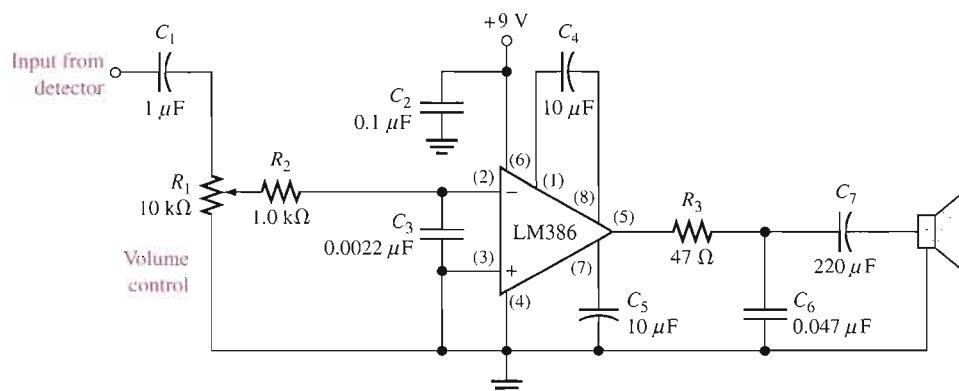

FIGURE 17–39
A typical application of the LM386 as a power amplifier in a radio receiver is shown in Figure 17–39. Here the detected AM signal is fed to the inverting input through the volume control potentiometer, R_1 , and resistor R_2 . C_1 is the input coupling capacitor and C_2 is the power supply decoupling capacitor. R_2 and C_3 filter out any residual RF or IF signal that may be on the output of the detector. R_3 and C_6 provide additional filtering before the audio signal is applied to the speaker through the coupling capacitor C_7 .
Figure 17–40 illustrates both a square wave and a sine wave modulating the frequency of a carrier. The carrier frequency is highest when the modulating signal is at its maximum positive amplitude and is lowest when the modulating signal is at its maximum negative amplitude.
▲ **FIGURE 17–40**
Frequency modulation is achieved by varying the frequency of an oscillator with the modulating signal. A voltage-controlled oscillator (VCO) is typically used for this purpose, as illustrated in Figure 17–41.
► **FIGURE 17–41**
Generally, a variable-reactance type of voltage-controlled oscillator is used in FM applications. The variable-reactance VCO uses the varactor diode as a voltage-variable capacitance, as illustrated in Figure 17–42, where the capacitance is varied with the modulating voltage, V_m .
► **FIGURE 17–42**